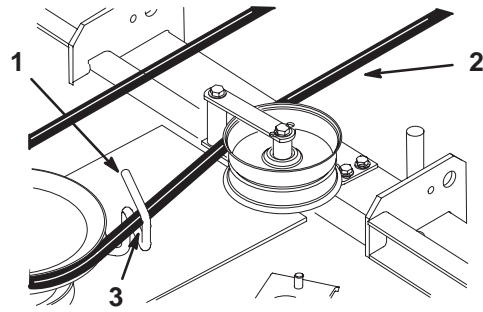

Figure 70
- Rotate the belt guide, on rear of the mower, so it is 1/8–1/4 inch (3–7 mm) away from the vertical side of the PTO belt (Fig. 70).